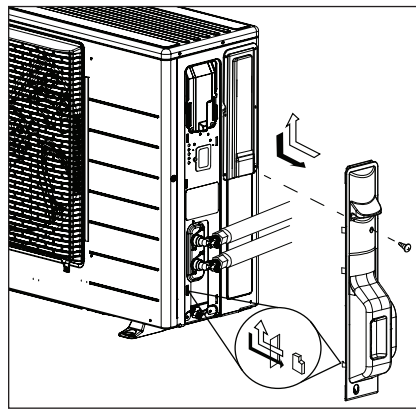

Figure 21 - Remove the primary cover to gain access to the second cover.
- 4** Before connecting the wiring to the unit, remove the covers to gain access to the wire connection points. Begin by using a Phillips screwdriver to remove the screw securing the primary cover to the unit to gain access the secondary control board cover. Gently push the cover down and away from the unit to remove. See Figure 21.